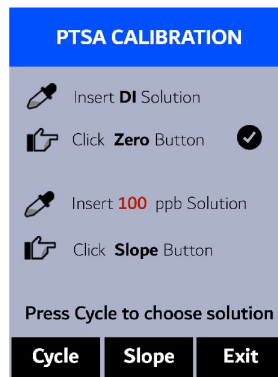

Figure 4.
6. If the calibration succeeds, a checkmark () and instructions for the slope calibration will appear (Figure 4).